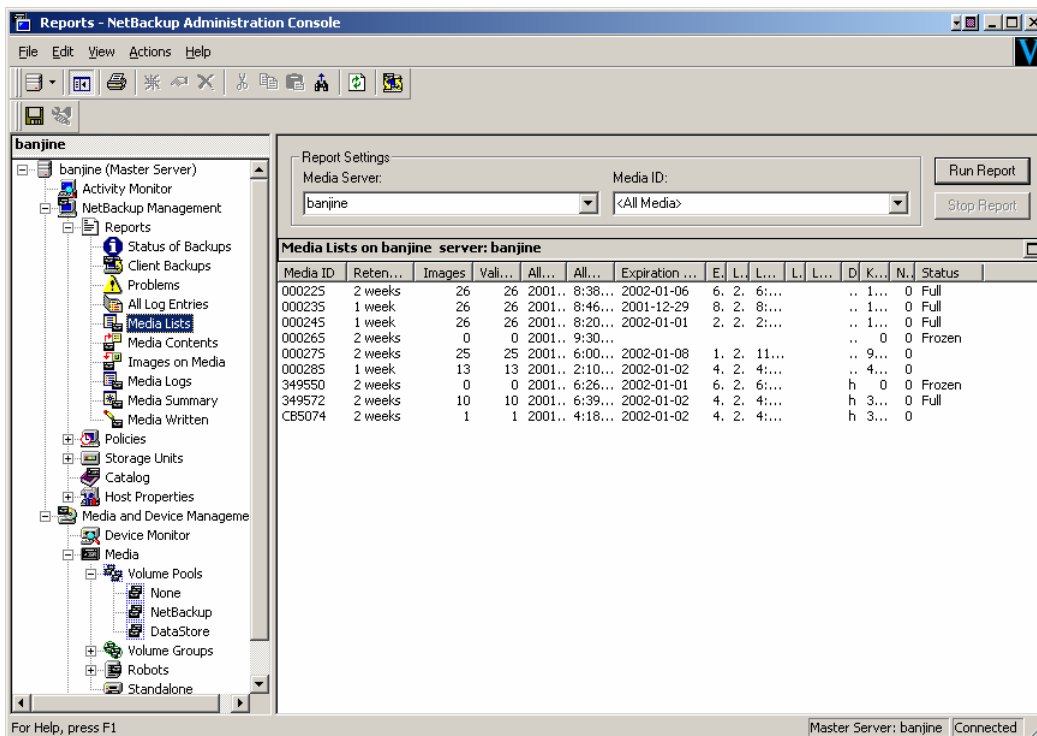

Figure 4
3. When media is frozen, it will be able to be restored until the retention period ends for all backups on that piece of media. Once that occurs, the media id will remain in the NetBackup media catalog and will remain assigned to the NetBackup software, however, it becomes unusable. A listing of the media status will show that it is both expired and frozen. By periodically viewing the status of the media using either the Media Lists in the Reports section of the NetBackup GUI as shown in Figure 4 or using the *“bpmédialist”* command, one can determine which media (now expired and frozen) may be removed and replaced with new media. Figure 4 shows the expiration date of the media as well as the status. When the status is frozen and the media is expired, then it should be removed from the library.